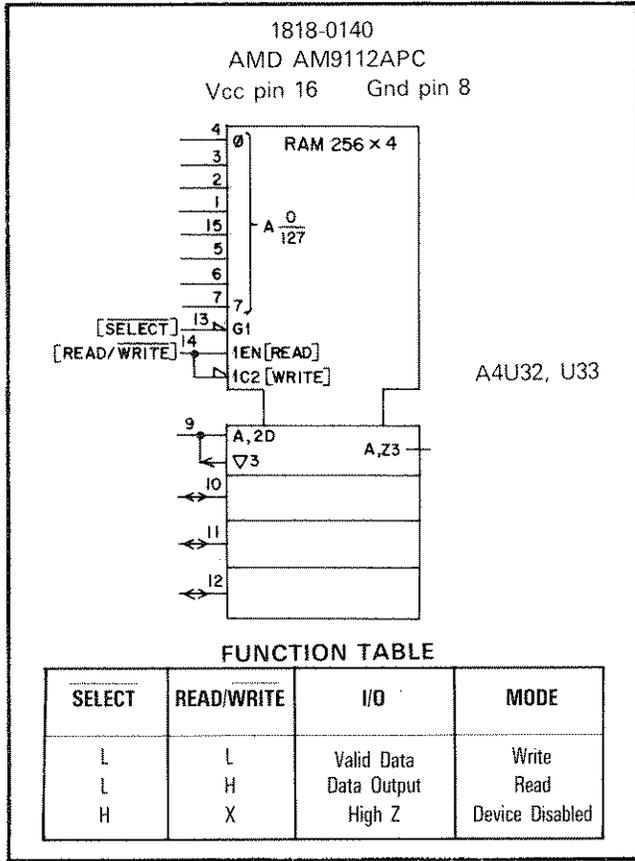
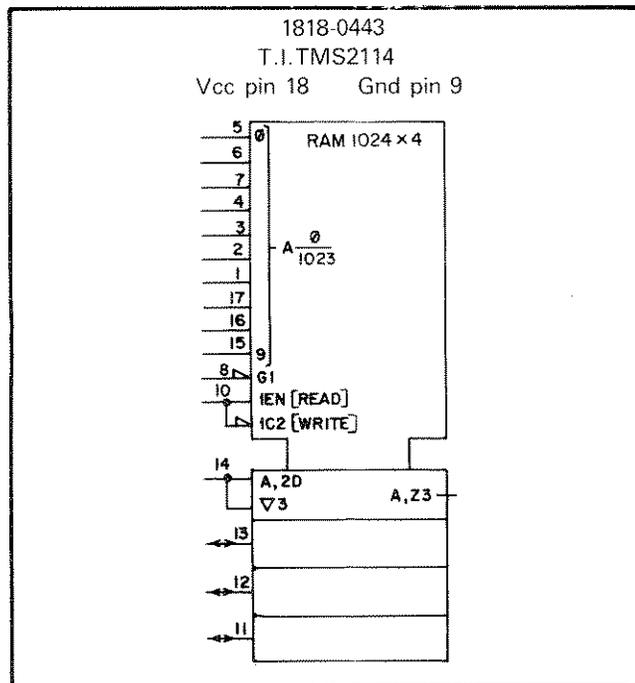

Figure B-27. 256 x 4-bit RAM
Figure B-28. 1024 x 4-bit RAM
**Random Access Memory (RAM).** Figure B-27 shows a 256 word static memory. Each word is four bits in length and is addressed via the address lines. Figure B-28 shows a similar RAM with a capacity of 1024 words. The G1 input must be low to enable the device, either read or write. C2 (active low) is the